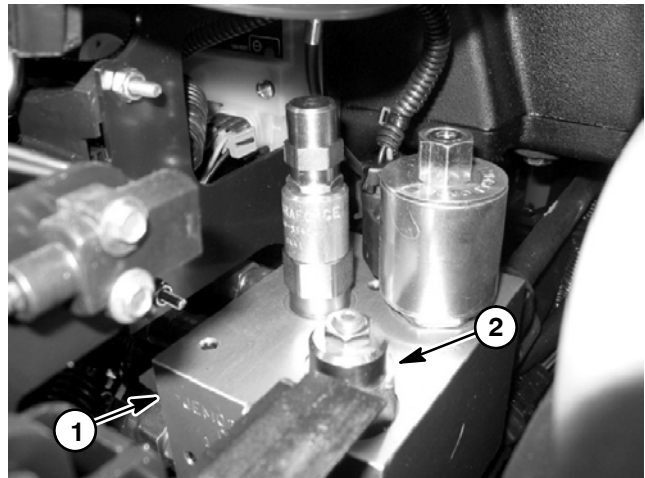

Figure 32
1. Loosen lock nut on braking valve (Fig. 32).